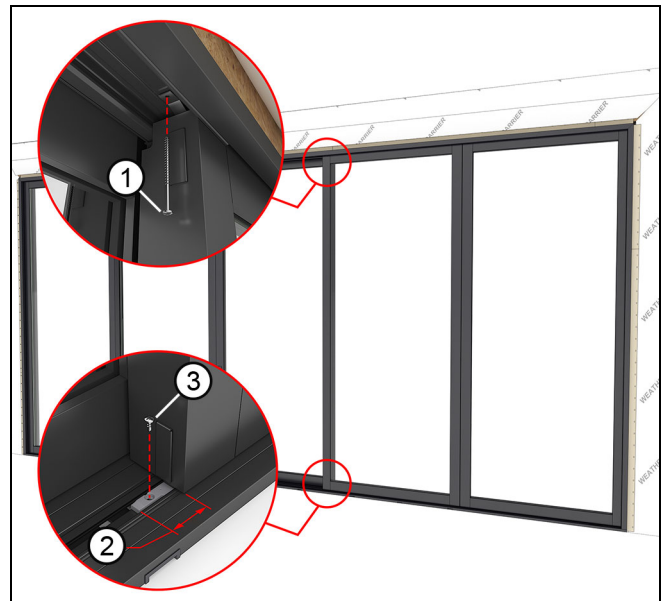

Figure 144
15. Bend the top stationary bracket of the (C) stationary panels up against the head jamb, pre-drill a 3/16" hole through the head jamb using the bracket as a template. Fasten through the bracket into the head jamb framing with a #10 x 3" installation screw. Shim as needed taking care not to bow the head jamb.
Fasten the lower stationary brackets on the (C) panels with a #8 x 1/2" screw. See Figure 144.